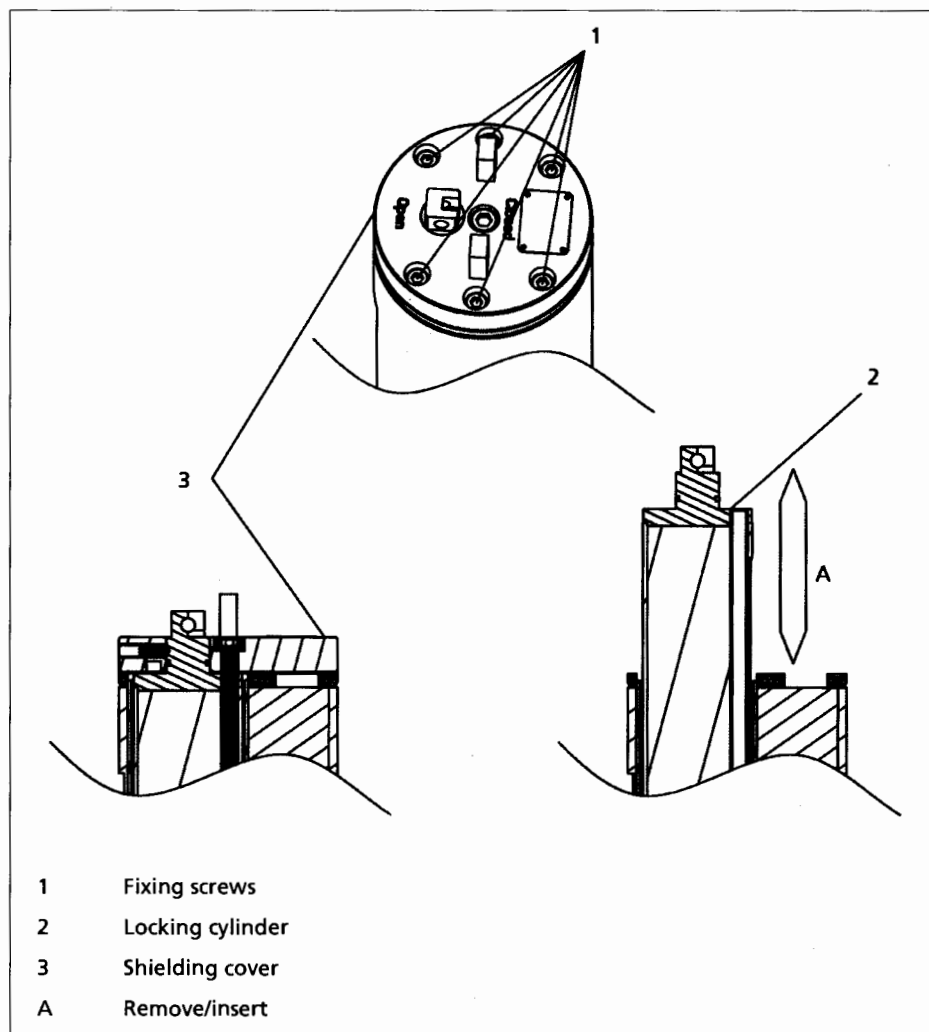

Fig. 13 Dismounting and mounting the locking cylinder of a Operation shield-ing
3. Untighten the fixing screws (Fig. 13, pos. 1) of the shielding cover and remove the shielding cover (Fig. 13, pos. 3).
5. Clean the locking cylinder (Fig. 13, pos. 2) and the reception tube thoroughly.
7. Remount the shielding cover (Fig. 13, pos. 3) and the transportation bracket.
10. Insert the plug (Fig. 13, pos. 2) into the transport shielding in order to shield the sources as long as they are not required.
13. Remove the plug (Fig. 13, pos. 2) from the transport shielding.